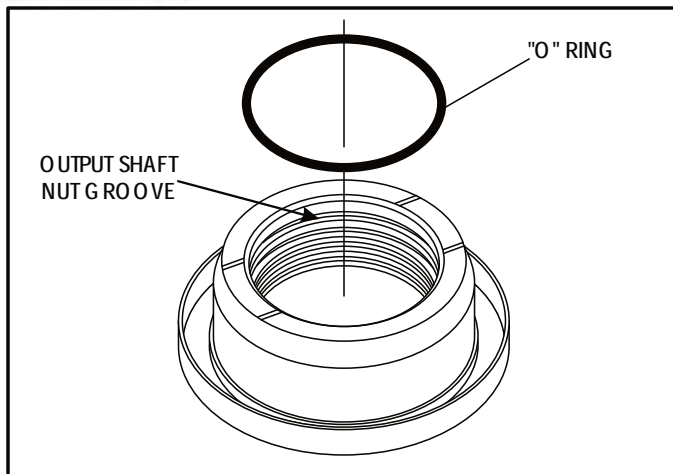

Figure 70
32. Install new "O" ring into the groove in output shaft nut, as shown in Figure 70, and lube with a small amount of Trans-Jel®.